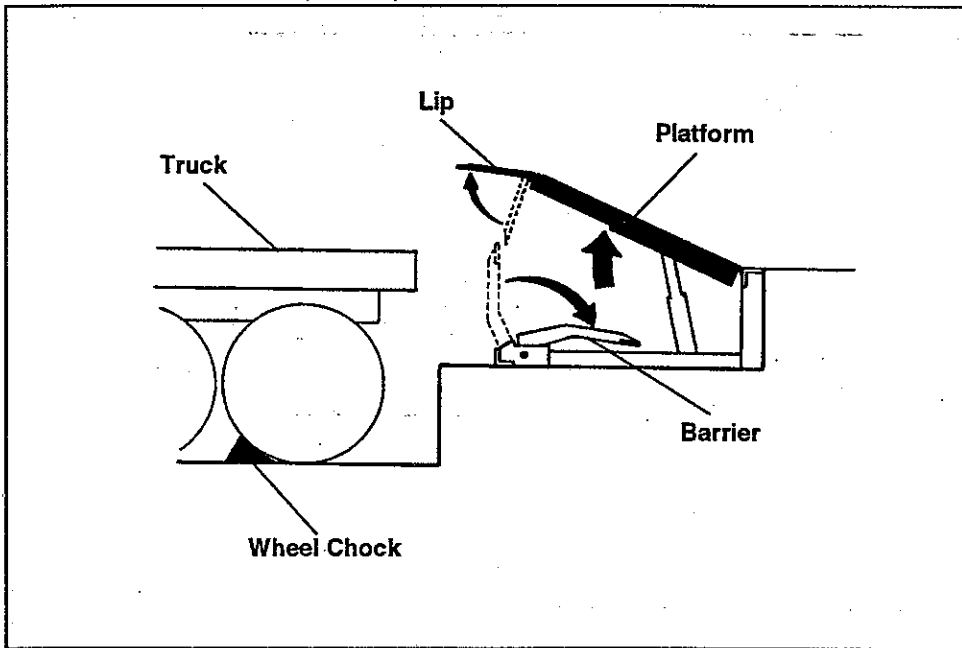

Fig. 5. Raising Dock Leveler
3. Press and hold "RAISE" button. Dock leveler platform will raise, barrier (if so equipped) will lower, and lip will extend to horizontal position. Hold button until lip is fully extended and all movement stops. See Figure 5.